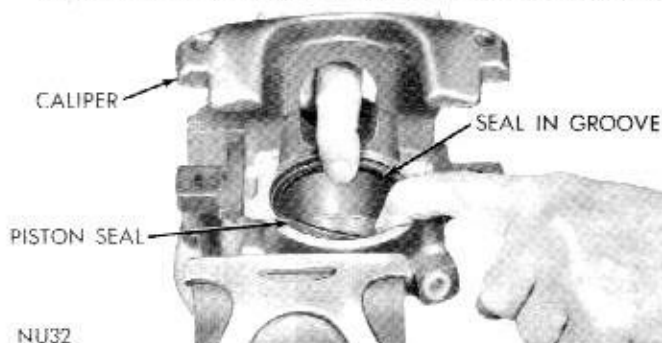

Fig. 15—Installing Piston Seal
(2) Dip new piston seal in lubricant (supplied with kit) Ucon #LB1145Y24 (or equivalent) and install in groove in bore. Seal should be positioned at one area in groove and gently worked around the groove, using **clean** fingers, until properly seated. **NEVER USE AN OLD PISTON SEAL.** (Be sure seal is not twisted or rolled). (Fig. 15).